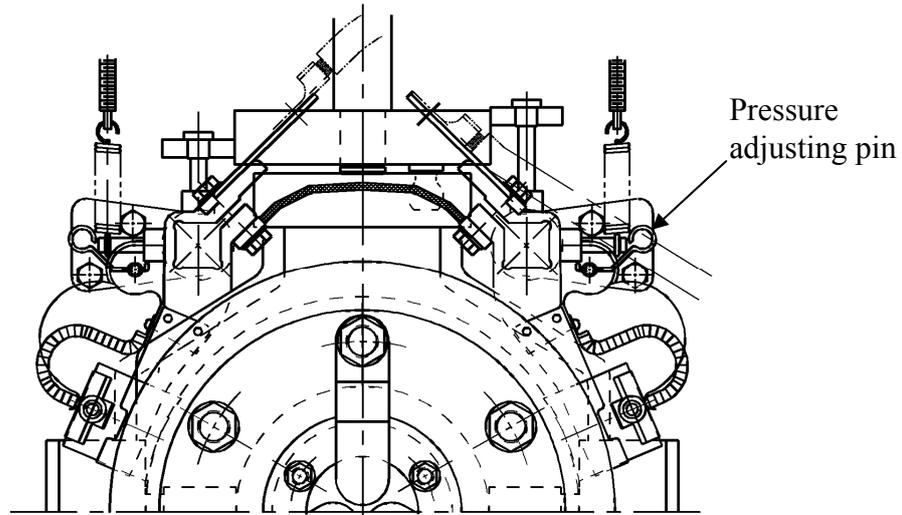

Fig. 25
- The brush pressure may be reduced after use, so it is necessary to re-adjust. For adjustment, please turn adjusting screw, pressure adjusting pin or pressure adjusting plate as shown in Fig.25 to obtain the correct tension ($=0.23 \times \text{brush cross sectional area in cm}^2$) ±10% kg.